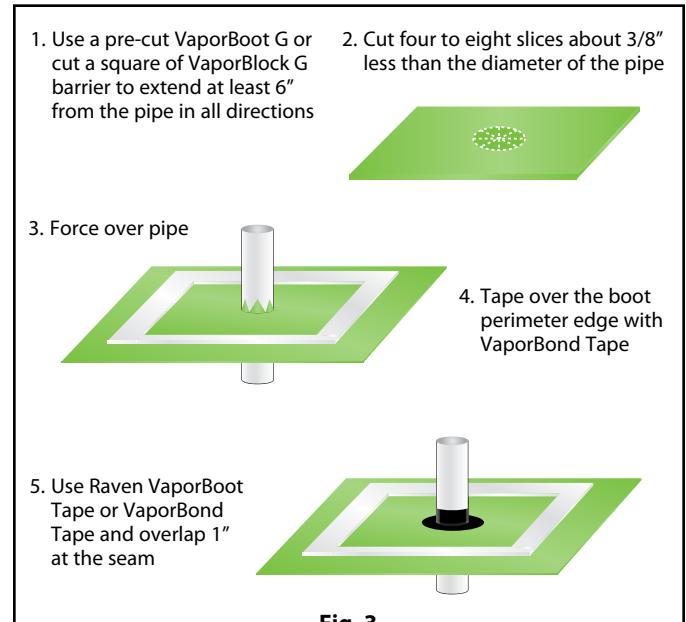

Fig. 3
- 1.4. Seal around all plumbing, conduit, support columns or other penetrations that come through the **VaporBlock® G™** membrane. The Raven VaporBoot G Pipe Boot System is the recommended sealing method. (Includes 25 pre-cut VaporBlock pipe boots along with 1 roll of VaporBoot Tape). (Fig. 3 & 4)
Pipe boots may also be cut and fabricated from excess **VaporBlock® G™** membrane (Fig. 3 & 4) and sealed with VaporBoot Tape or VaporBond Tape (sold separately).
To fabricate pipe boots from **VaporBlock® G™** excess material (see Fig. 3 & 4 for A-E):
- E) Complete the process by taping over the boot perimeter edge with VaporBond Tape to create a monolithic membrane between the surface of the slab and moisture sources below and at the slab perimeter. (Fig. 3 & 4)